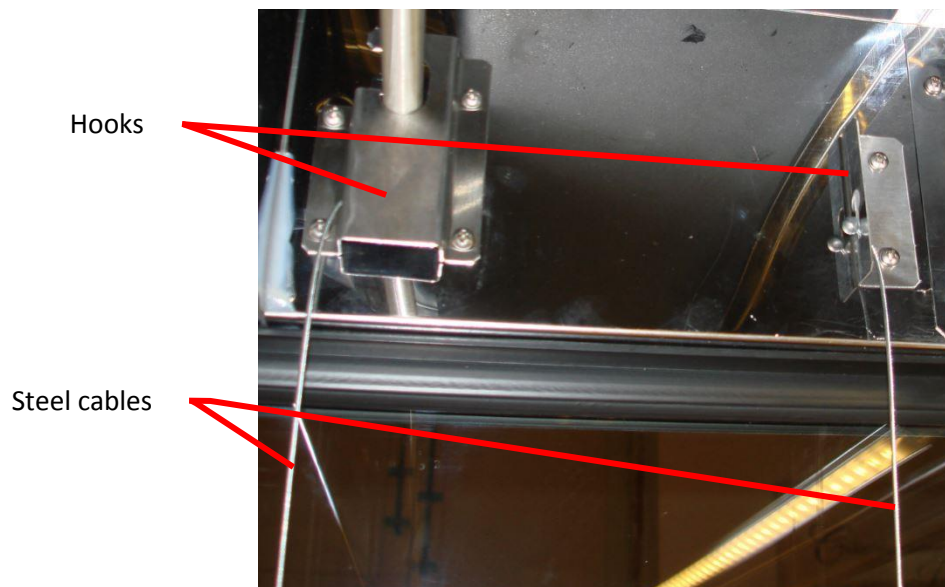

Figure 3.
- 3) So prepared shelf put into the flower refrigerator. It is necessary to be done by two people. The shelf supposed to be turned 90° along the long edge and in this position put it under the slant through the door. The second person supposed to sustain it on the other side of the flower refrigerator. It is forbidden to stand on the bottom of the flower refrigerator. Then place the shelf between side glass panes and hang it on the cables.. For this purpose hook the ends of cables with the balls on the hooks by putting the balls through the “key” type hall (*Figure 3*).